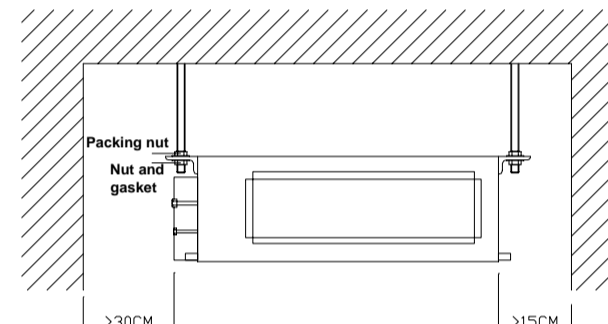

Fig.2 Indoor unit installation
- Make sure there is sufficient space for installation. (Fig. 2)